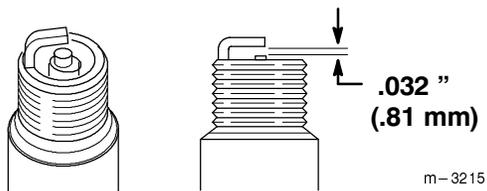

Figure 22
- Set the spark plug gap (Fig. 22) between the electrodes to .032 inches (.81 mm).